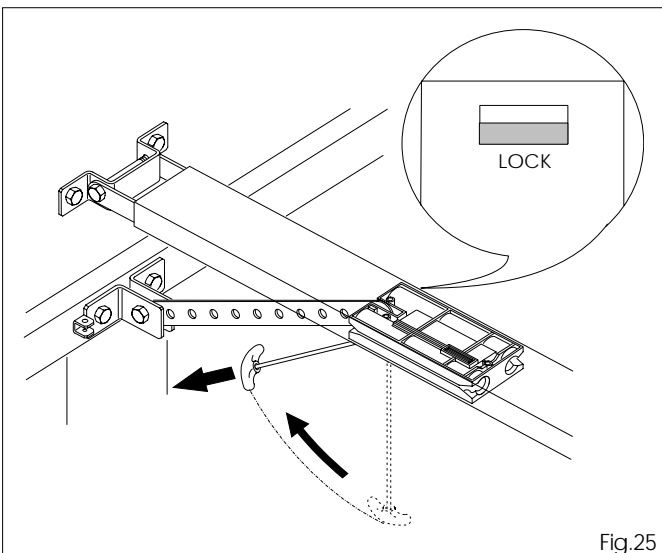

Fig.25
6.23 Re-lock the automatic system by pulling the handle sideways (fig.25) N.B.: on release, make sure you can see the red "LOCK" indication window under the carriage – this means it was correctly reset.